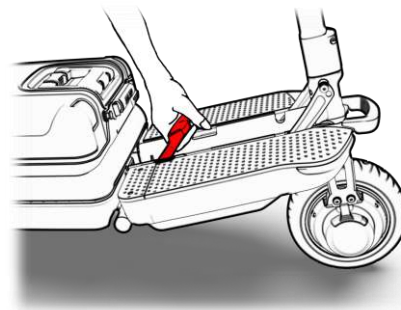

Figure 42
- Switch hands. Use one hand to keep the rod upright and use your other hand to lift the main handle (see Figure 42).